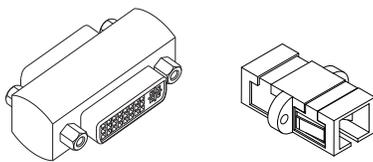

FIG. 22 DVI and SC fiber cable adapters
- Isolate source/destination equipment and cable problems by patching around the router using a cable adapter (FIG. 22) to check the overall signal path.